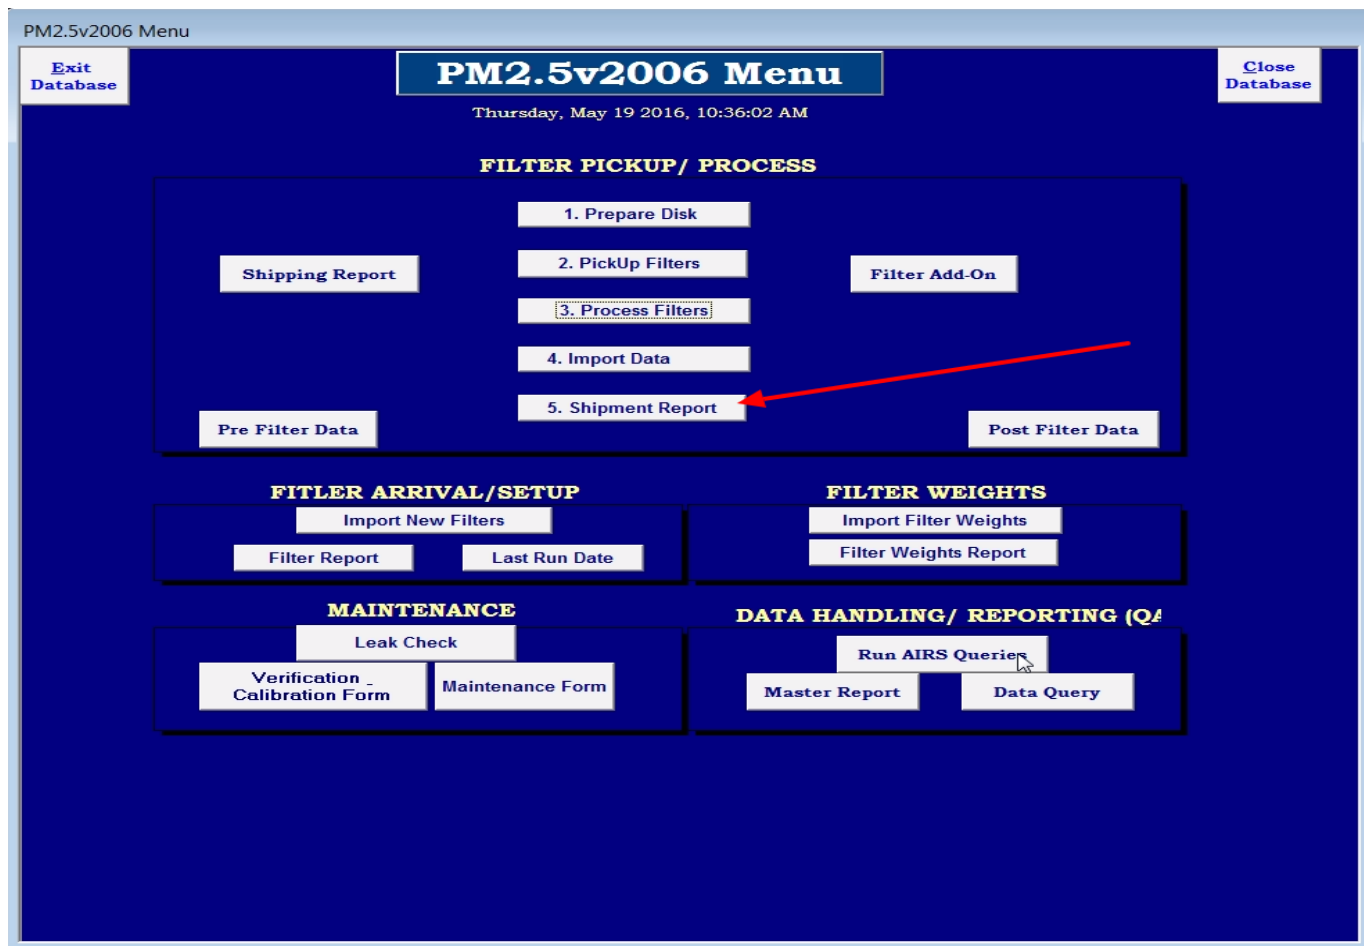

Figure 28: Shipment Report Button
6.4.4.5 Press “5. Shipment Report” (see Figure 28). A Shipment Report MUST be printed out for EACH filter being shipped.